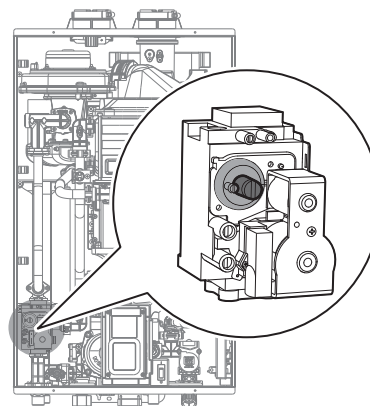

Figure 10
- c. Fully open a hot water fixture and set the water heater to operate at 1-stage MIN mode (refer to page 40). Measure the offset value at low fire and compare it to the values in Table 3. If the offset value is out of range, the gas valve set screw will need to be adjusted. If adjustment is necessary, locate the set screw as shown in Figure 10. Using a $\frac{5}{32}$ in or 4 mm Allen wrench, turn the set screw no more than $\frac{1}{4}$ turn clockwise to raise or counterclockwise to lower the offset value.